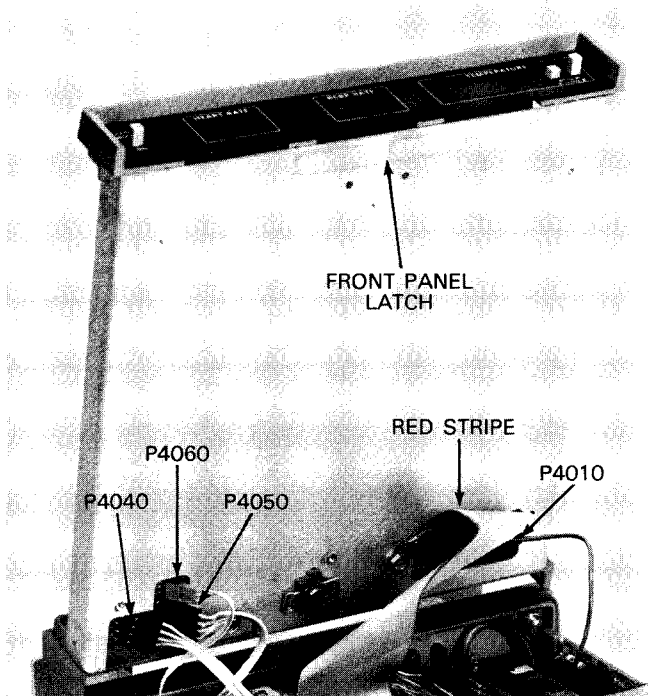

Figure 1-16. Attaching 401 to monitor.
- b. With interconnecting cable folded as shown in Figure 1-16. Connect to P4010 on 401 Main board. Note correct location of red stripe.
- c. Connect 3-wire cable (with brown connector) to P4060. See Figure 1-16. Be sure to match triangle on connector with one on board.
- d. Connect 4-wire cable (with black connector, from P1982 on monitor) to P4050. See Figure 1-16. Be sure pin 1 on the connector (white-brown wire) mates with pin 1 of P4050 (indicated by triangle).
- e. Connect 4-wire cable (with black connector from monitor battery pack) to P4040. See Figure 1-16. Be sure pin 1 on the connector (white-brown wire) mates with pin 1 of P4040 (indicated by triangle).